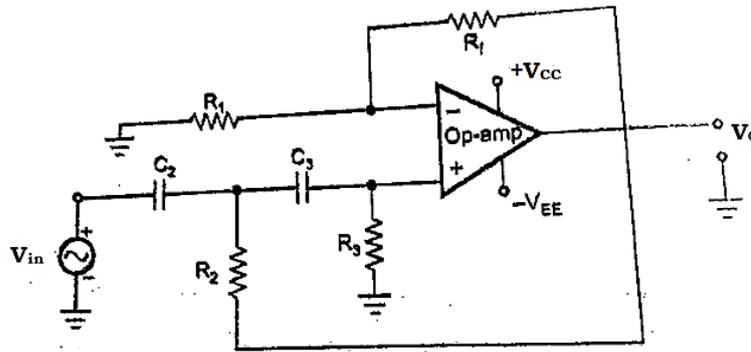

Fig. 3.15 Second Order High Pass Butterworth Filter
9. Discuss the second order high pass filter with its frequency response and design the circuit with cut-off frequency of 5 KHZ. (May-15) (8)
- The Fig. 3.15 shows the second order high pass Butterworth filter.